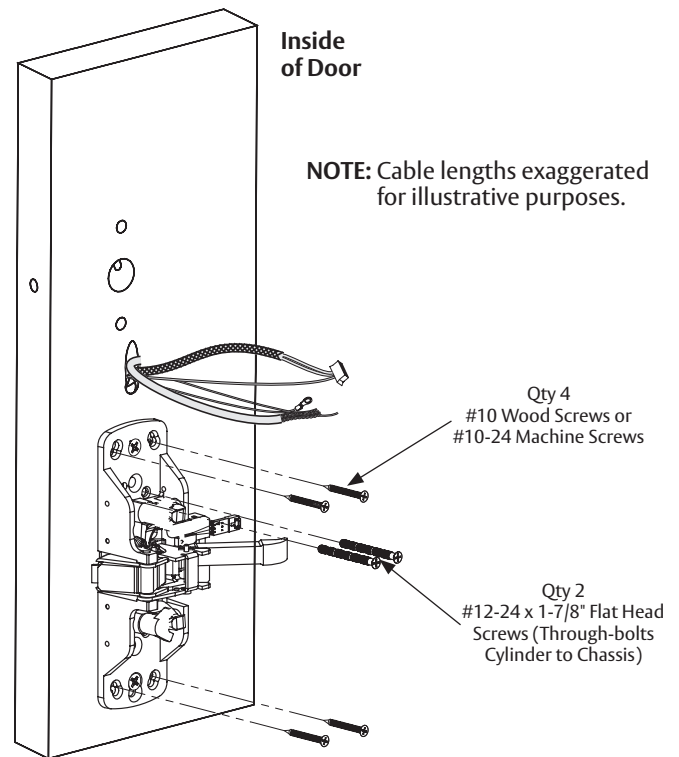

Figure 5-6
2. Secure the cylinder by through-bolting the cylinder through the exit chassis using two (2) #12-24 x 1-7/8" connecting screws (Figure 5-6).